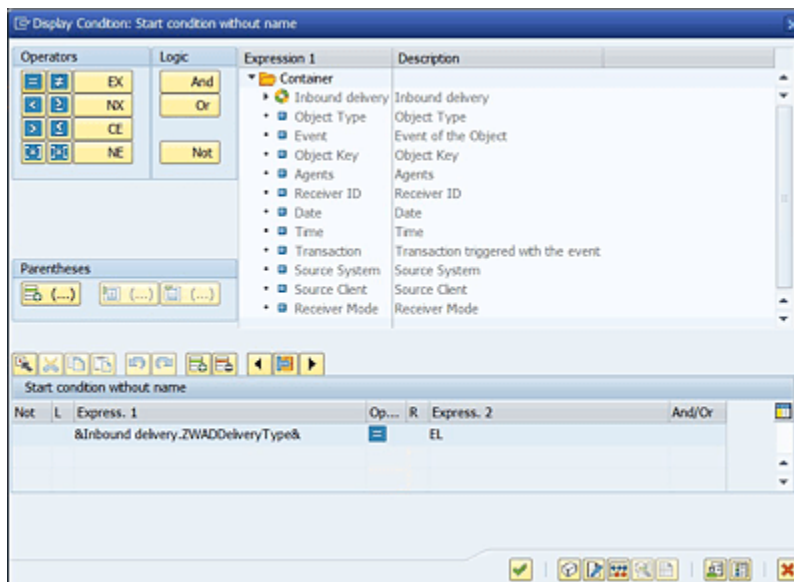

Figure 5.33 Maintaining the Start Condition Using the Condition Editor in Transaction SWB_COND
4. Click on the **Create** button on the toolbar, and then click on the selected event linkage. A popup screen will appear with the condition editor that allows you to create flexible start conditions. In the screen shown in Figure 5.33, enter the start condition per your requirement. (In this case, we're checking for delivery type = **EL**).